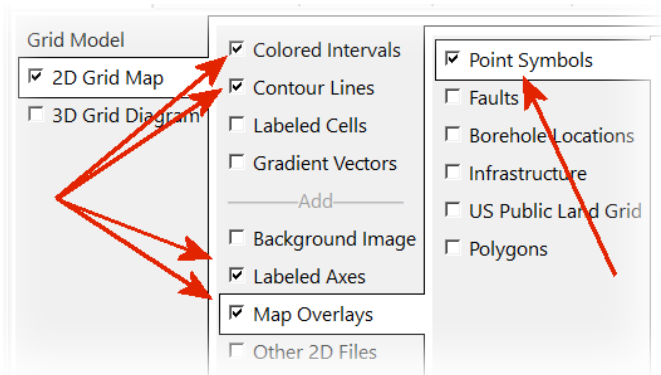

Figure 36
- Click on the 2D Grid Map option and enable the Colored Intervals, Contour Lines, Labeled Axes, and Map Overlays options (Figure 36). Enable the Point Symbols option. The Point Symbols sub-menu will “inherit” the settings that you used when creating the proportional symbol map.